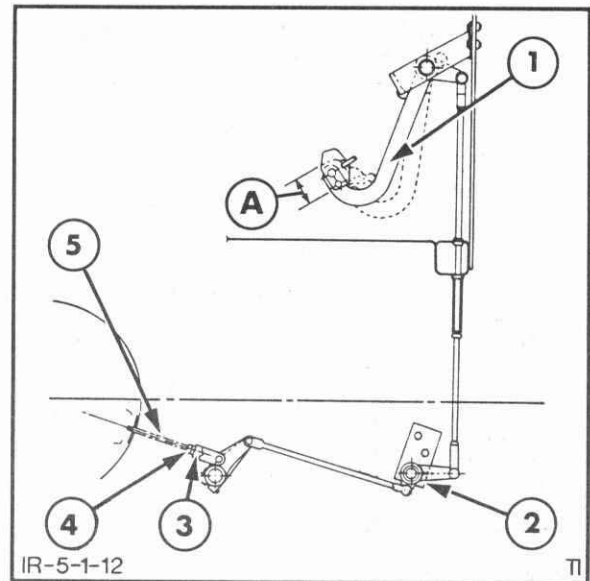

Figure 5-12
- d. Brake actuating disc assembly with the control rod passing through the brake control rod seal assembly, Figure 5-12. Position the notch over the torque pin. If the brake control rod seal assembly has been removed, install a new seal by tapping it into the rear axle housing and locking the seal in the annular groove on the brake control rod. Secure a new control rod fastener.
4. Reconnect the brake linkage and adjust the linkage to provide the specified free pedal travel shown in Figure 5-12.